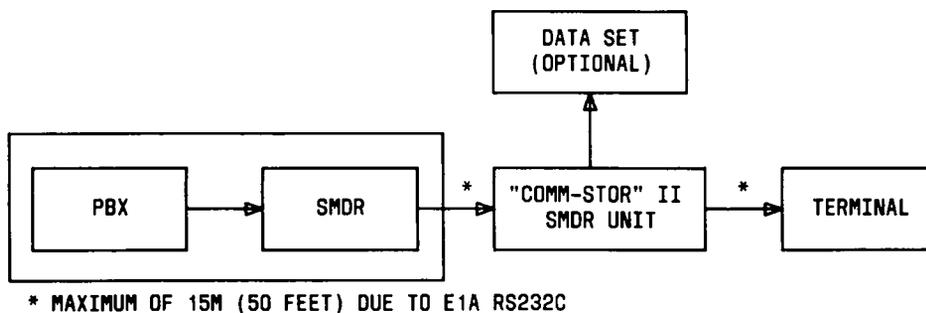

Fig. 8—Block Diagram of SMDR With COMM-STOR II/SMDR Unit
**2.13** The COMM-STOR II/SMDR unit (Fig. 8) is available in Model 8220A (dual drive). This unit can interface with the direct output version of the SMDR option offered with the DIMENSION PBX system. The unit records call information and generates report summaries by date and time of call, duration, dialed number, calling station, account code, department, dial-access code, and cost. These reports may be printed on a hard-copy terminal.